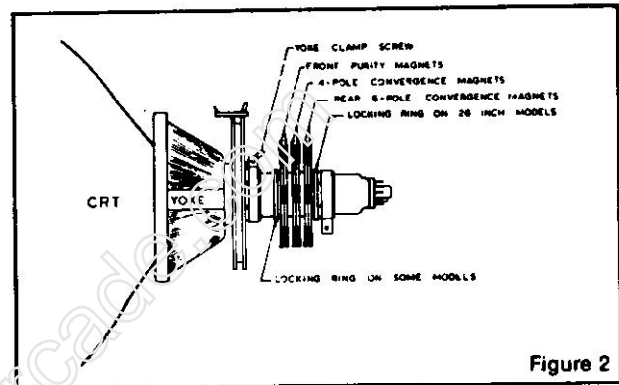

Figure 2
- 1.1 Loosen yoke retaining clamp (figure 2), remove adhesive material fixing wedges to CRT. Remove wedges completely and clean off dried adhesive from picture tube and wedges.
**NOTE:** Static convergence is achieved by four magnets located on the neck, nearest the base of the picture tube, Fig. 2. The middle pair of magnetic rings are adjusted to converge the blue and red crosshatch lines. The rear pair of convergence rings (closest to the base of the picture tube) are adjusted to converge the magenta (blue/red) to the green crosshatch lines. Dynamic convergence is achieved by tilting the deflection yoke up-down and left-right.